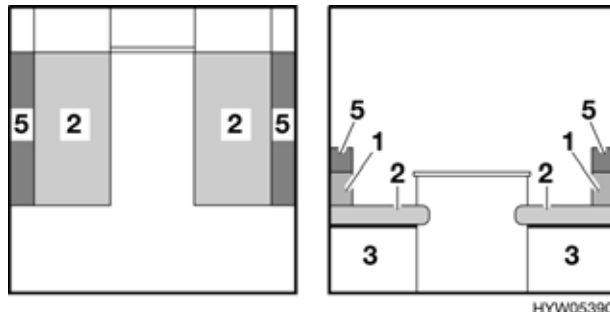

Fig. 93 Prior to conversion
- Remove the additional cushion (Fig. 93,5) from the back cushion (Fig. 93,1). The additional cushion is fixed to the back cushion with Velcro and can easily be separated.